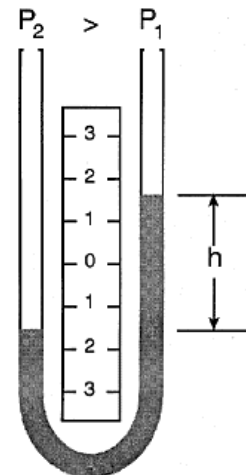

Figure 3. B
Figure 3. Gauge pressure is a measurement relative to atmospheric pressure and it varies with the barometric reading. A gauge pressure measurement is positive when the unknown pressure exceeds atmospheric pressure (A), and is negative when the unknown pressure is less than atmospheric pressure(B).